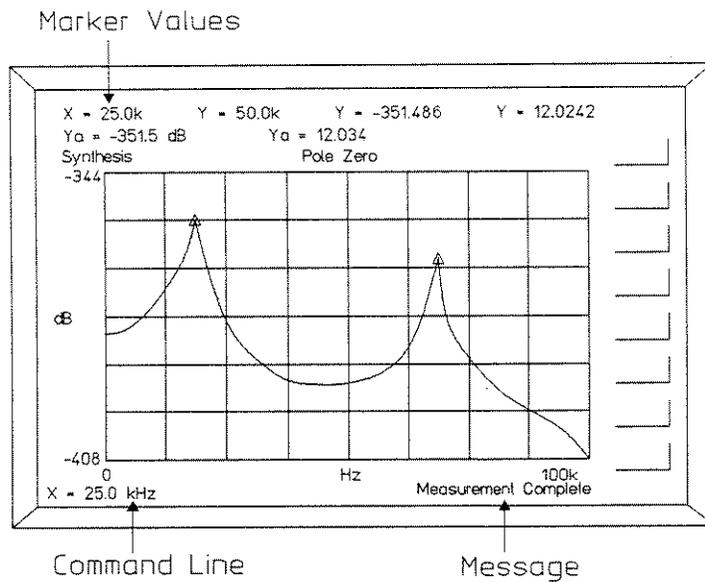

Figure 4-3. HP 3563A Display
3. Record the position of the X and Y markers as indicated for each test. Refer to Figure 4-3 for an example of the position of the X and Y marker readings. Additional information about reading the X and Y marker positions is available in the *HP 3563A Operating Reference Manual*.
The instrument will not record any keystroke during a calibration cycle or a measurement. A status message appears in the lower-right corner of the display. See Figure 4-3.